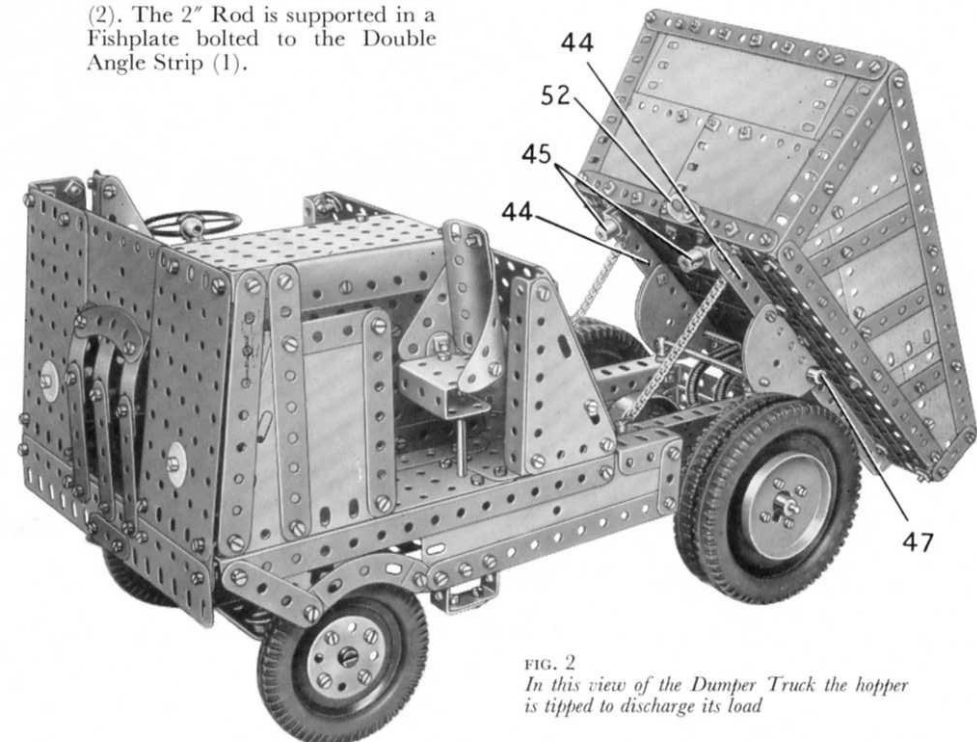
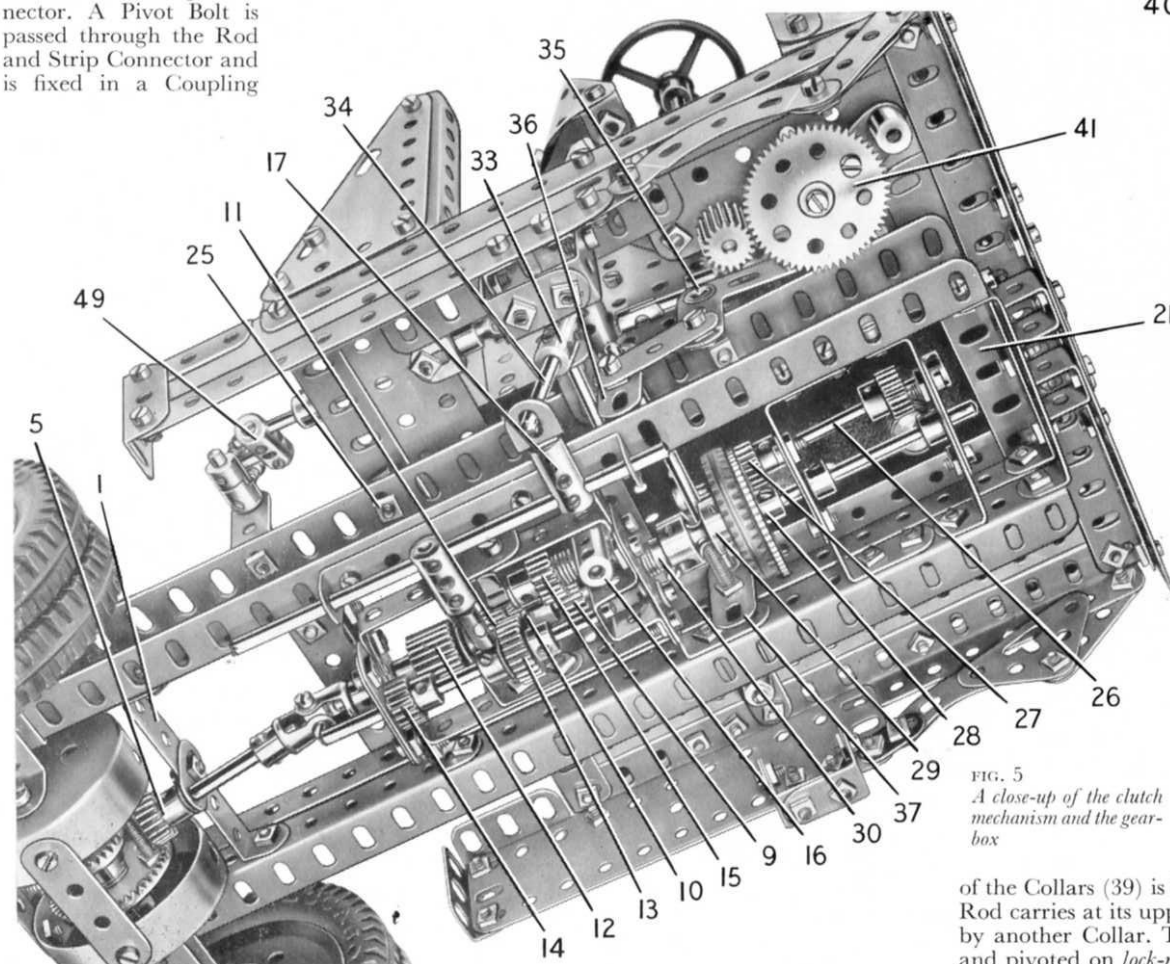
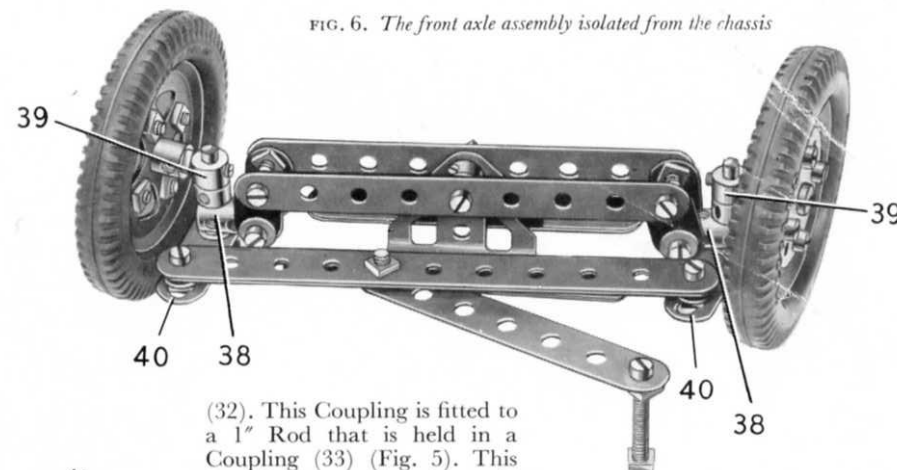
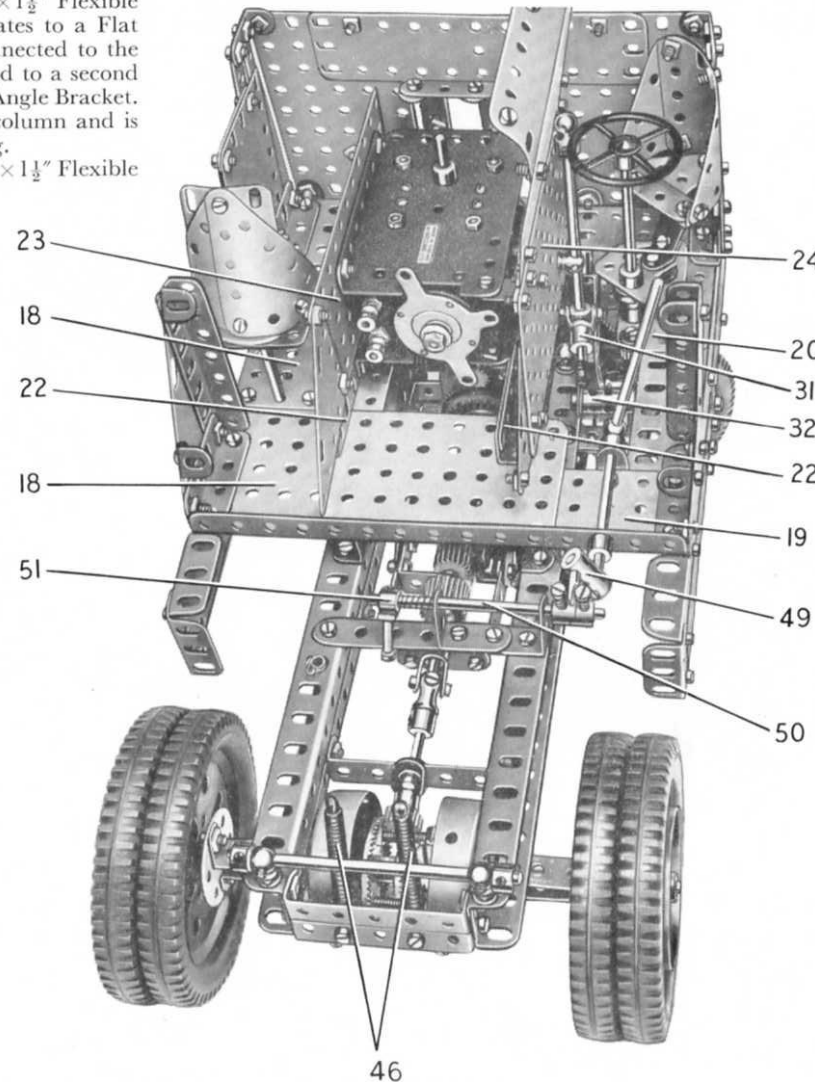

FIG. 2
FIG. 5
FIG. 6. The front axle assembly isolated from the chassis
FIG. 7. An end view of the Dumper Truck, with the hopper and the front of the body removed to show how the E15R Electric Motor is mounted in place
The gear-box driving shaft is a $3"$ Rod that carries a $\frac{3}{4}"$ Pinion (9) (Fig. 5) and a $\frac{1}{2}"$ Pinion (10). The Rod is held in place by a Collar, and projects about $\frac{1}{4}"$ beyond the Pinion (10) into the bore of a $\frac{1}{2}"$ Pinion (11) on the output shaft. This shaft is a $2"$ Rod supported in one end of the frame and in the Angle Bracket (8), and it carries also a $\frac{3}{4}"$ diam. $\times \frac{1}{2}"$ face Pinion (12).
(Fig. 5). The reverse $\frac{1}{2}"$ Pinion (15) is free to turn on a $1\frac{1}{2}"$ Rod fixed in a Coupling (16). The Pinion is held on the Rod by a Spring Clip, and is spaced from the Coupling by five Washers. The Coupling is screwed tightly on to a $\frac{1}{2}"$ Bolt passed through one end of the gear-box frame, but is spaced from the frame by a Washer. The position of the Coupling (16) is arranged so that Pinion (15) can be meshed with both Pinions (9) and (13).
Construction of the Body (Figs. 2, 5 and 7)
The base frame of the body consists of four $7\frac{1}{2}"$ Angle Girders arranged in the form of a square. Two $5\frac{1}{2}" \times 2\frac{1}{2}"$ Flat Plates (18) and two $3" \times 1\frac{1}{2}"$ Flat Plates (19) and (20) are bolted to the frame (Fig. 7), and a $2\frac{1}{2}" \times 1\frac{1}{2}"$ Flexible Plate is fitted in front of the Plate (20). A $3\frac{1}{2}"$ Flat Girder is fixed between the Flexible Plate and the Plate (19), and a $4\frac{1}{2}"$ Flat Girder (21) (Fig. 5) is bolted centrally to the rear end of the frame.
Two $5\frac{1}{2}"$ Angle Girders (22) (Fig. 7) are bolted to the Plates (18) and to the Flat Girder (21). A $5\frac{1}{2}" \times 2\frac{1}{2}"$ Flat Plate (23) is attached by Fishplates to one of the Girders (22), and a $5\frac{1}{2}" \times 3\frac{1}{2}"$ Flat Plate (24) is attached by Angle Brackets to the second Girder.
The body is attached to the chassis by two Double Bent Strips at the rear (Fig. 5), and by Double Brackets held by bolts (25).
An E15R Electric Motor is bolted by its flanges to Flat Plate (23) (Fig. 7). The Motor is connected to Flat Plate (24) by $1" \times \frac{1}{2}"$ Angle Brackets, and to one of the Girders (22) by $\frac{1}{2}" \times \frac{1}{2}"$ Angle Brackets. A cover over the Motor is provided by a $5\frac{1}{2}" \times 2\frac{1}{2}"$ Flat Plate and a curved $5\frac{1}{2}" \times 2\frac{1}{2}"$ Flexible Plate bolted together. The cover is pivoted on Hinges bolted to the Flat Plate (24).
A Worm fixed to the lower end of the Motor shaft drives a $\frac{1}{2}$ " Pinion on a $2\frac{1}{2}$ " Rod (26) (Fig. 5). This Rod is supported in two Flat Trunnions, one of which is bolted to a $2\frac{1}{2}$ " \times $\frac{1}{2}$ " Double Angle Strip and the other to a $2\frac{1}{2}$ " \times 1 " Double Angle Strip. A $\frac{1}{2}$ " Pinion drives a 57-tooth Gear (28) on a $2\frac{1}{2}$ " Rod mounted in the Double Angle Strips.
Arrangement of the Driving Controls (Figs. 5 and 7)
The gear-change lever is a $3\frac{1}{2}$ " Rod, fixed in a Handrail Support *lock-nutted* to Flat Plate (24) (Fig. 7). A Swivel Bearing (31) is fixed on the lower end of the lever, and is joined by a 1" Rod to a Rod and Strip Connector. A Pivot Bolt is passed through the Rod and Strip Connector and is fixed in a Coupling
(32). This Coupling is fitted to a 1" Rod that is held in a Coupling (33) (Fig. 5). This Coupling is carried by a 2" Rod supported in one of the chassis side-members and in a $1" \times \frac{1}{2}"$ Angle Bracket bolted to the top flange of the side-member. The 2" Rod is held in place by a Collar. A $1\frac{1}{2}"$ Rod (34) fixed in the Coupling (33) engages the slotted hole of an Angle Bracket, which is pivoted on a bolt fixed by a nut in the Threaded Coupling (17).
The clutch pedal is formed by a Threaded Boss held by a bolt in the short lug of a $1" \times \frac{1}{2}"$ Angle Bracket. The Angle Bracket is bolted to one arm of a Bell Crank (35) (Fig. 5), which is fixed on a 1" Rod. The 1" Rod is passed through a Handrail Support attached by its shank to the top flange of the chassis, and the Rod is held in place by a Collar. A $1\frac{1}{2}"$ Strip is *lock-nutted* to the other arm of the Bell Crank, and is *lock-nutted* also to a Crank (36) fixed on a $4\frac{1}{2}"$ Rod mounted across the chassis. A Crank (37) on this Rod is fitted with a $\frac{3}{4}"$ Bolt that engages the groove of the Socket Coupling (29).
The front axle is supported by Trunnions attached to four $3\frac{1}{2}"$ Strips. These Strips are arranged in pairs, each pair consisting of two Strips placed face-to-face, and they are bolted to the chassis. The axle beam is made from two $4\frac{1}{2}"$ Strips, which pivot on a $\frac{3}{4}"$ Bolt *lock-nutted* in the Trunnions. A Collar and a Washer are placed on the Bolt between the Trunnions, and a Washer is fitted between each $4\frac{1}{2}"$ Strip and the corresponding Trunnion. Fishplates are fastened to the ends of the $4\frac{1}{2}"$ Strips, and a Coupling (38) is fixed by two bolts to the Fishplates at each end (Fig. 6).
The steering column is a $4\frac{1}{2}$ " Rod mounted in a Double Arm Crank bolted to Flat Plate (20) (Fig. 7). The Rod is held in place by a $\frac{1}{2}$ " fixed Pulley placed above the Crank, and below the Flat Plate it is fitted with a $\frac{1}{2}$ " diameter $\times \frac{1}{2}$ " face Pinion. This Pinion engages a 57-tooth Gear (41) (Fig. 5), which is freely mounted on a $\frac{1}{2}$ " Bolt held by two nuts in the Flat Plate (20). A $3\frac{1}{2}$ " Strip is lock-nutted on a $1\frac{1}{4}$ " Bolt fixed in a Threaded Boss, attached to a Fishplate bolted to Gear 41. The other end of the Strip is lock-nutted to the $5\frac{1}{2}$ " Strips attached to the Cranks (40) (Fig. 6).
The seat for the second man is formed by a $2\frac{1}{2}$ " $\times 1\frac{1}{2}$ " Flexible Plate and two $2\frac{1}{2}$ " $\times 2$ " Triangular Flexible Plates attached by Angle Brackets to a Bush Wheel and a Channel Bearing (see Fig. 2). A $2\frac{1}{2}$ " Rod fixed in the Bush Wheel is held in a Double Arm Crank bolted underneath the body.
The floor of the hopper is formed by three $4\frac{1}{2}$ " $\times 2\frac{1}{2}$ " Flexible Plates and two $2\frac{1}{2}$ " $\times 1\frac{1}{2}$ " Flexible Plates, extended on each side by a $5\frac{1}{2}$ " $\times 1\frac{1}{2}$ " and a $2\frac{1}{2}$ " $\times 1\frac{1}{2}$ " Flexible Plate. The floor is strengthened by five $7\frac{1}{2}$ " Strips bolted to the Plates on the inside, and along the front edge are bolted a $4\frac{1}{2}$ " and a $3\frac{1}{2}$ " Flat Girder overlapped three holes. Two built-up girders (44) (Fig. 2), each made from a $5\frac{1}{2}$ " and a $2\frac{1}{2}$ " Angle Girder, are bolted to the underside of the floor.
Two Semi-Circular Plates placed face-to-face are bolted to each of the girders (44), and they pivot on a 4" Rod held in Handrail Supports fixed to the chassis. Two short lengths of Sprocket Chain are hooked through holes in the girders (44), and are looped over Cord Anchoring Springs screwed into holes in the chassis. Two Rod Sockets (45) (Fig. 2) are fixed to Angle Brackets bolted to the girders (44). Two Tension Springs (46) (Fig. 7) are bolted to the front of the chassis, and are passed over a $4\frac{1}{2}$ " Rod (47) (Fig. 2).
supported in the front $7\frac{1}{2}$ " Angle Girder of the body, and in an Angle Bracket bolted to Flat Plate (19) (Fig. 7). At its front end the 3" Rod carries a Coupling (49), which is fitted with a Centre Fork. The Centre Fork is located between two $\frac{3}{8}$ " Bolts, each of which is screwed into one half of a Dog Clutch on a $3\frac{1}{2}$ " Rod (50). This Rod is mounted in $1" \times 1"$ Angle Brackets bolted to a $3\frac{1}{2}$ " Strip fixed across the chassis. A Compression Spring is placed on Rod (50) between one of the Angle Brackets and a Collar (51). A $\frac{3}{8}$ " Bolt is screwed into the Collar and bears against the edge of the $3\frac{1}{2}$ " Strip to ensure that the $\frac{3}{8}$ " Bolts in the Dog Clutch remain in engagement with the Centre Fork. The end of Rod (50) passes into an Angle Bracket (52) (Fig. 2), which is spaced from the back of the hopper by a Collar on a $\frac{1}{2}$ " Bolt.